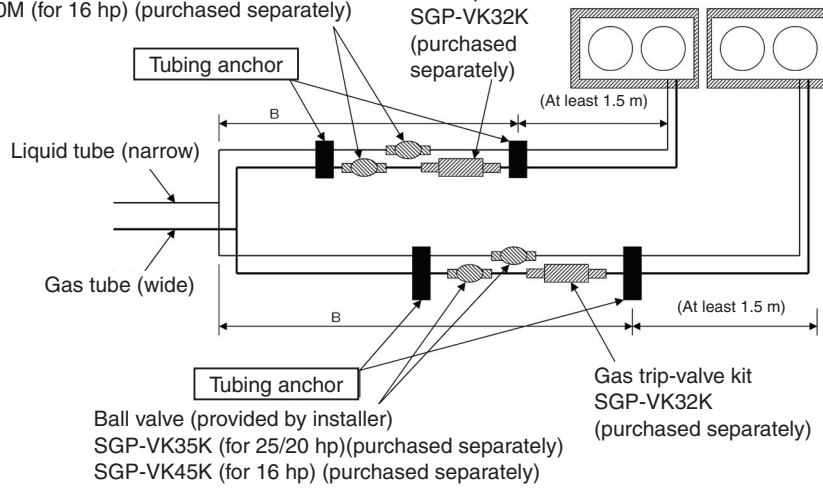

Fig. 21-1
(1) When Using Singular Frames
- When anchoring the refrigerant tubing, be sure to set the tubing anchor for each outdoor unit at least 1.5 m away from the respective unit (as shown in Fig. 21-1).